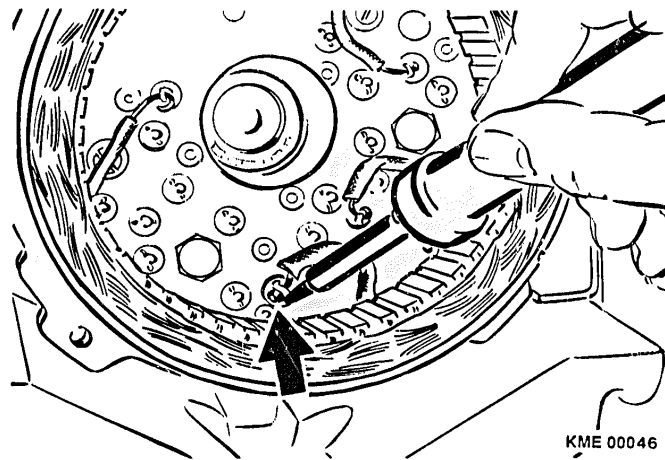

**Figure 34 Rectifier Mounting and Soldering of Terminal W**
10. Install the three (3) rectifier mounting screws and torque to 1.3 to 1.7 Nm (11.5 to 15 in. lbs.).
11. Solder the soldering lug of terminal W to the solder pad of the rectifier assembly with rosin core solder. (Figure 34 )